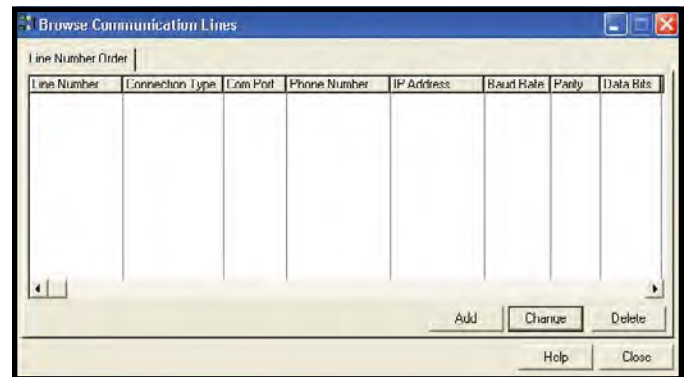

Figure 113. Out-of-the-Box™, Browse Communication Lines window
- III. Click the “Add” button in the “Browse Communication Lines” window (see Figure 113).